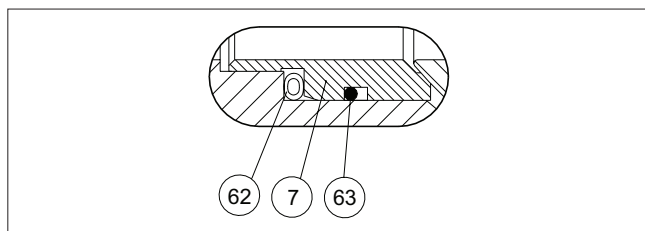

Fig. 10 S seat
- Place the O-ring (63) into the groove in the seat. See Figures 10 and 11.
- Place the spring (62) into the groove in the seat (7). Connect the ends of the spring.